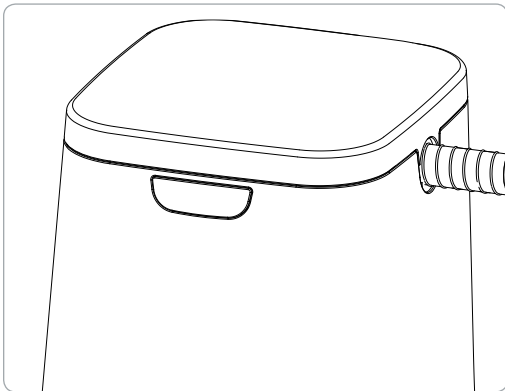

Figure 8. Closed lid with PAP mask inside
5. Close the lid with the PAP hose placed in the open slot (figure 8). The SoClean will now automatically operate according to its preset time and duration.